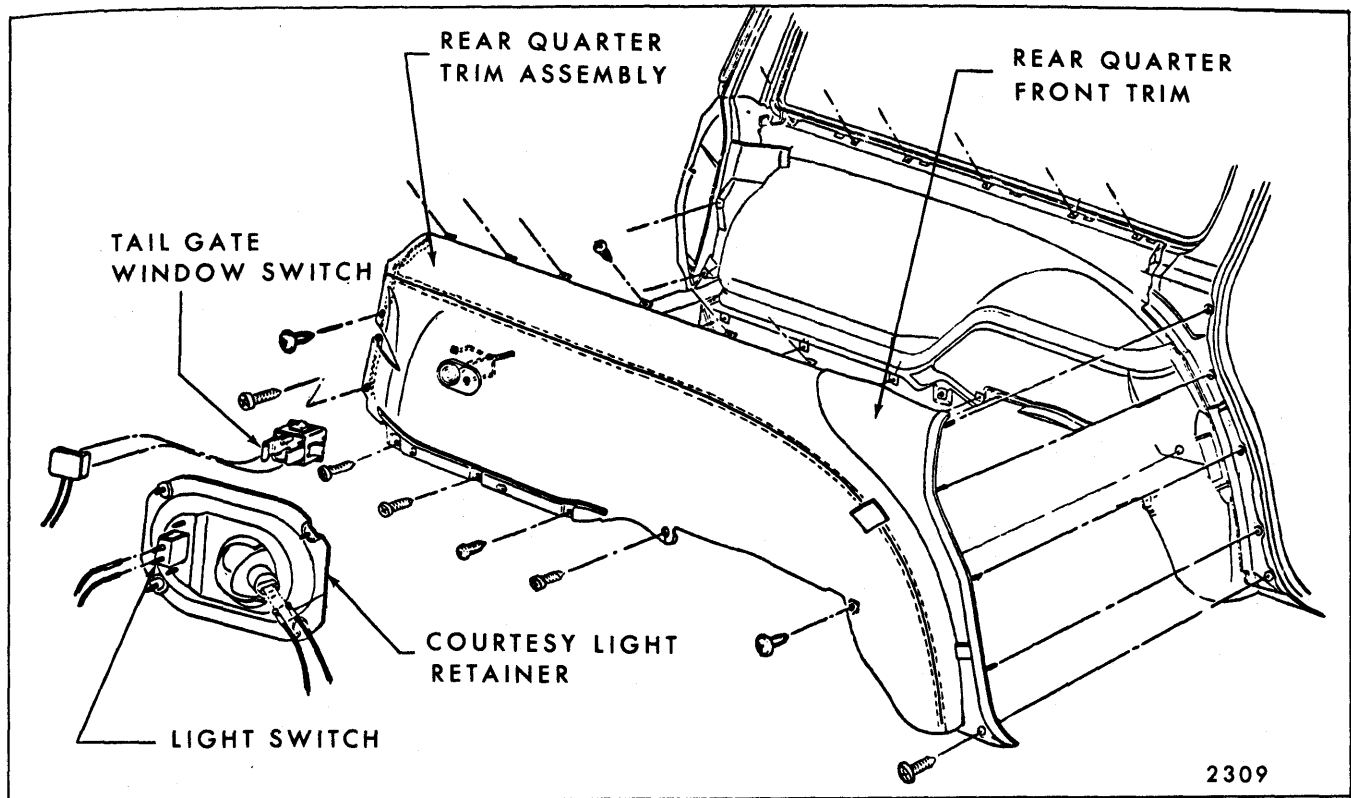

Fig. 8-16—Rear Quarter Trim Panel Left Side - "B" Station Wagons
2. Remove all screws securing trim panel to rear quarter inner panel (Fig. 8-16).
pillar (on front edge of rear quarter front trim assembly) (Fig. 8-16).
4. Lift assembly upward slightly to disengage from rear quarter inner panel and remove assembly from body. On styles equipped with courtesy lamp disconnect feed wire from switch and lamp (Fig. 8-16, View "A").